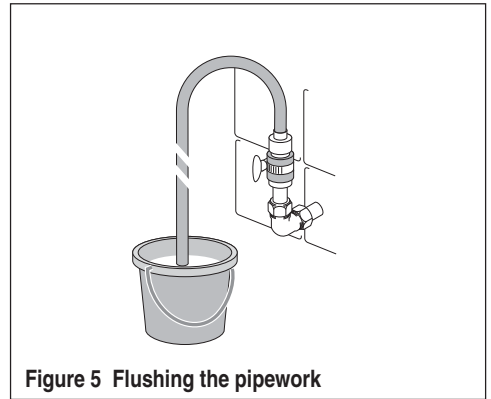

Figure 5 Flushing the pipework
3.17 Before making the final water connections to the shower heater, the pipe-work **MUST BE FLUSHED THOROUGHLY** to remove brick dust, swarf etc. which could severely damage the shower itself - see Fig. 5.
5.15 It is essential to flush the pipe in order to clear debris, particles or solder and swarf prior to connecting to the shower - see Fig. 5.